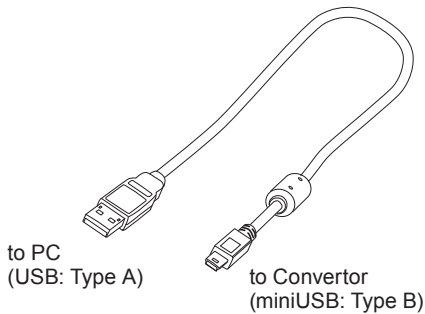

Fig 1. Connector Cable
* Cable: USB (Type A) - miniUSB (Type B) (Fig. 1).